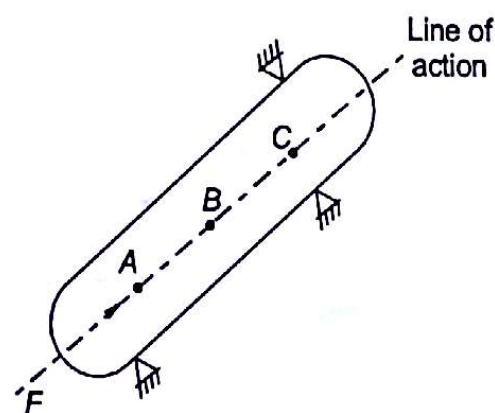

Fig. 2.2
- (b) A force can be moved along its line of action, so long as the point of application remains on the body. A force F is applied on a body along line of action ABC , as shown in Fig. 2.2. The point of application can be moved to B or to C , along the line of action and the effect of the force on body remains unchanged. This is also called the *law of transmissibility of a force*.